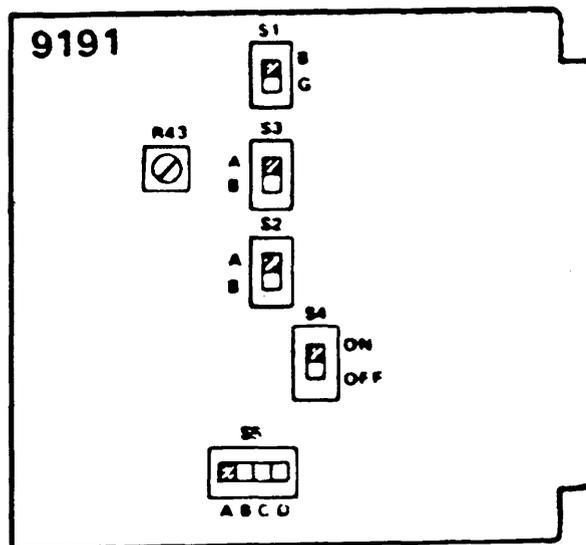

FIGURE 1
3.05 The 9191 module contains five option switches. Locations of these option switches are shown in Figure 1.